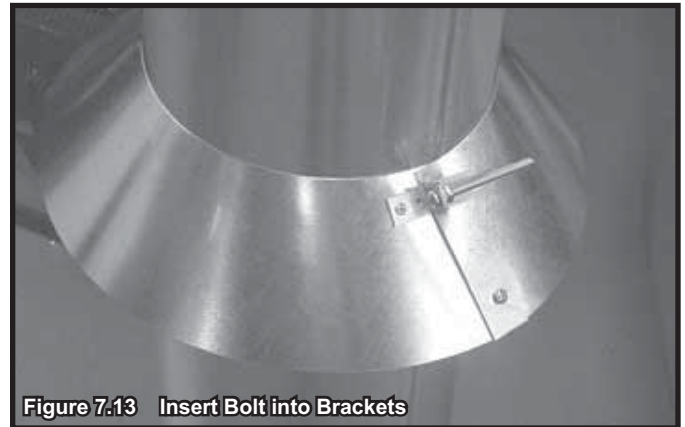

Figure 7.13 Insert Bolt into Brackets
- Slide the assembled storm collar down the pipe section until it rests on the roof flashing. See Figure 7.13.